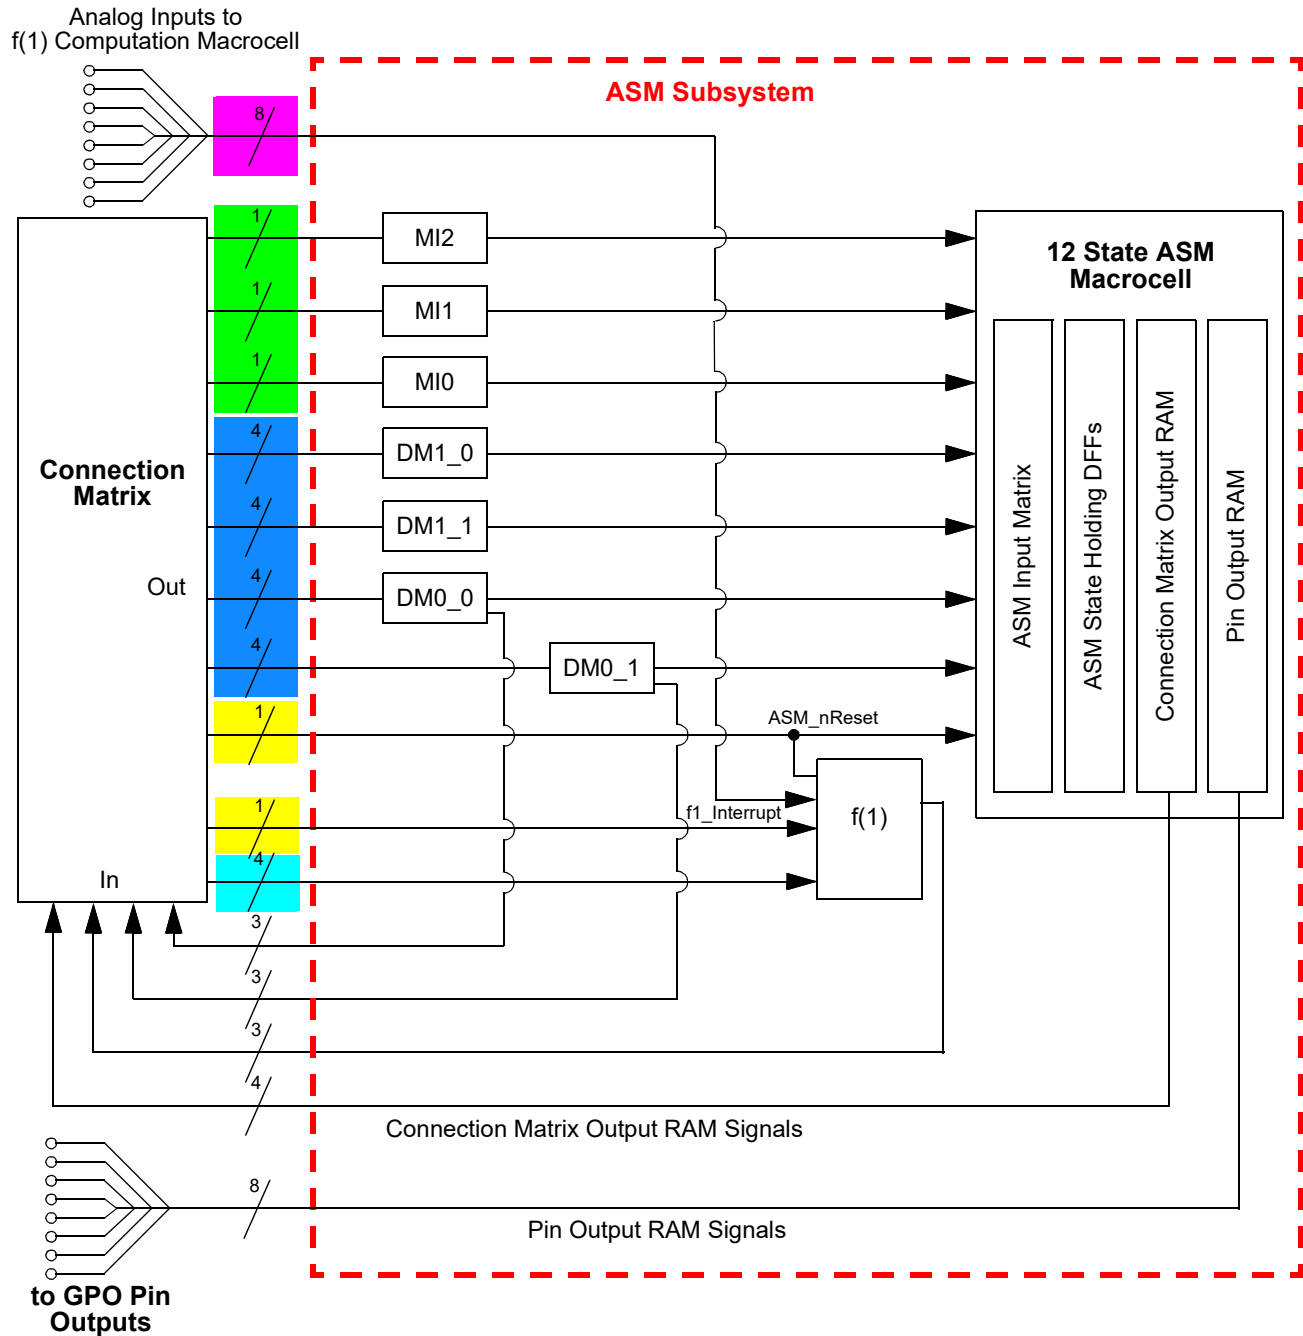
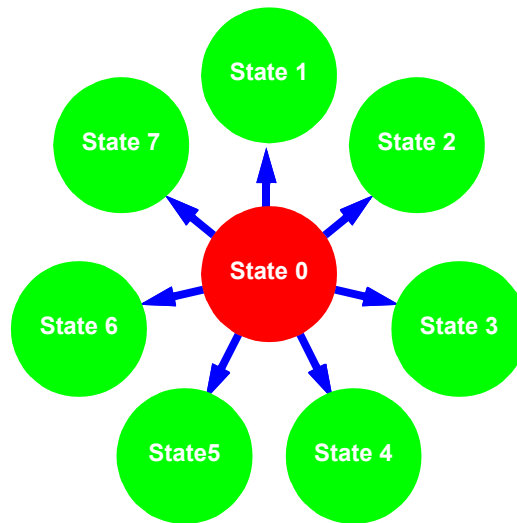
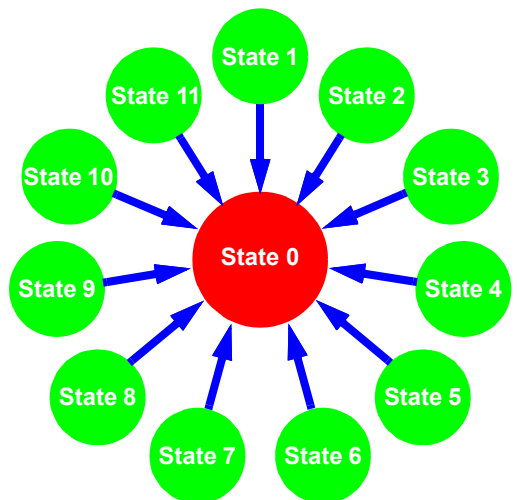

Figure 98: ASM Subsystem Input Signals
Figure 99: Maximum 7 State Transitions out of a Given State
Figure 100: Maximum 11 State Transitions into Given State
The ASM Subsystem has a total of 25 digital input signal lines, as shown in Figure 98, which all come from the Connection Matrix outputs. Of these 25 input signals, 3 are user selectable inputs going directly from the Connection Matrix to the three Matrix Interface (MI) macrocells. There are a total of 16 input signals that go to the DMx_x macrocell, four per macrocell. There is 1 ASM_nReset input that is for driving a state transition in both the ASM macrocell and the f(1) Computation Macrocell to an Initial/Reset state. There are 4 digital input signals coming from the Connection Matrix to the f(1) Computation Macrocell. There is also 1 dedicated Interrupt input to the f(1) Computation Macrocell that will halt any active operations and transfer control back to the ASM macrocell. Each of the 25 input signals are level sensitive.
There are a total of 16 digital input signals to the ASM Subsystem which are inputs directly to the DM macrocells. These 16 signals are shown in Figure 98, highlighted in blue. While there are 4 input signals coming from the Connection Matrix and going to each DMx_x macrocell, there is only 1 output signal from each of these macrocells, which goes directly to the ASM macrocell. There are also 3 signal lines that come directly from the Connection Matrix and go to the three Matrix Interface (MI) macrocells which can drive state transitions. These signals are shown in Figure 98, highlighted in green. This sets an upper bound on the number of transitions that the user can select going **out of** a particular state to be 7, shown in Figure 99. There is no limitation on the number of unique transitions that can be supported going into a particular state, the user can select to have transitions going from a state to all other states, shown in Figure 100. Each of these input signals to the ASM macrocell is level sensitive, and active high. A high level input will trigger a state transition.
There are a total of 8 analog inputs coming from various pins which can be muxed into the positive input for the f(1) Analog Comparator inside the f(1) Computation Macrocell. These 8 signals are shown in Figure 98, highlighted in pink. The f(1) Analog Comparator can be re-programmed for analog input source and negative input reference settings. The user selections for both positive input signal and negative reference are included as part of the information stored in the f(1) Command Register Table. This allows the user to make different analog measurements that are state dependent in their analog sources and reference settings.
The ASM macrocell also has a ASM_nReset input. This input to the ASM macrocell is level sensitive and active low. This signal is shown in Figure 98, highlighted in yellow. An active signal on this input will drive an immediate state transition to the user-defined Initial/Reset state. The user can choose which state within the ASM Editor inside GPAK Designer will be the reset state.
There is also 1 dedicated f1_Interrupt input to the f(1) Computation Macrocell that will halt any active operations and transfer control back to the ASM macrocell. This signal is shown in Figure 98, also highlighted in yellow.